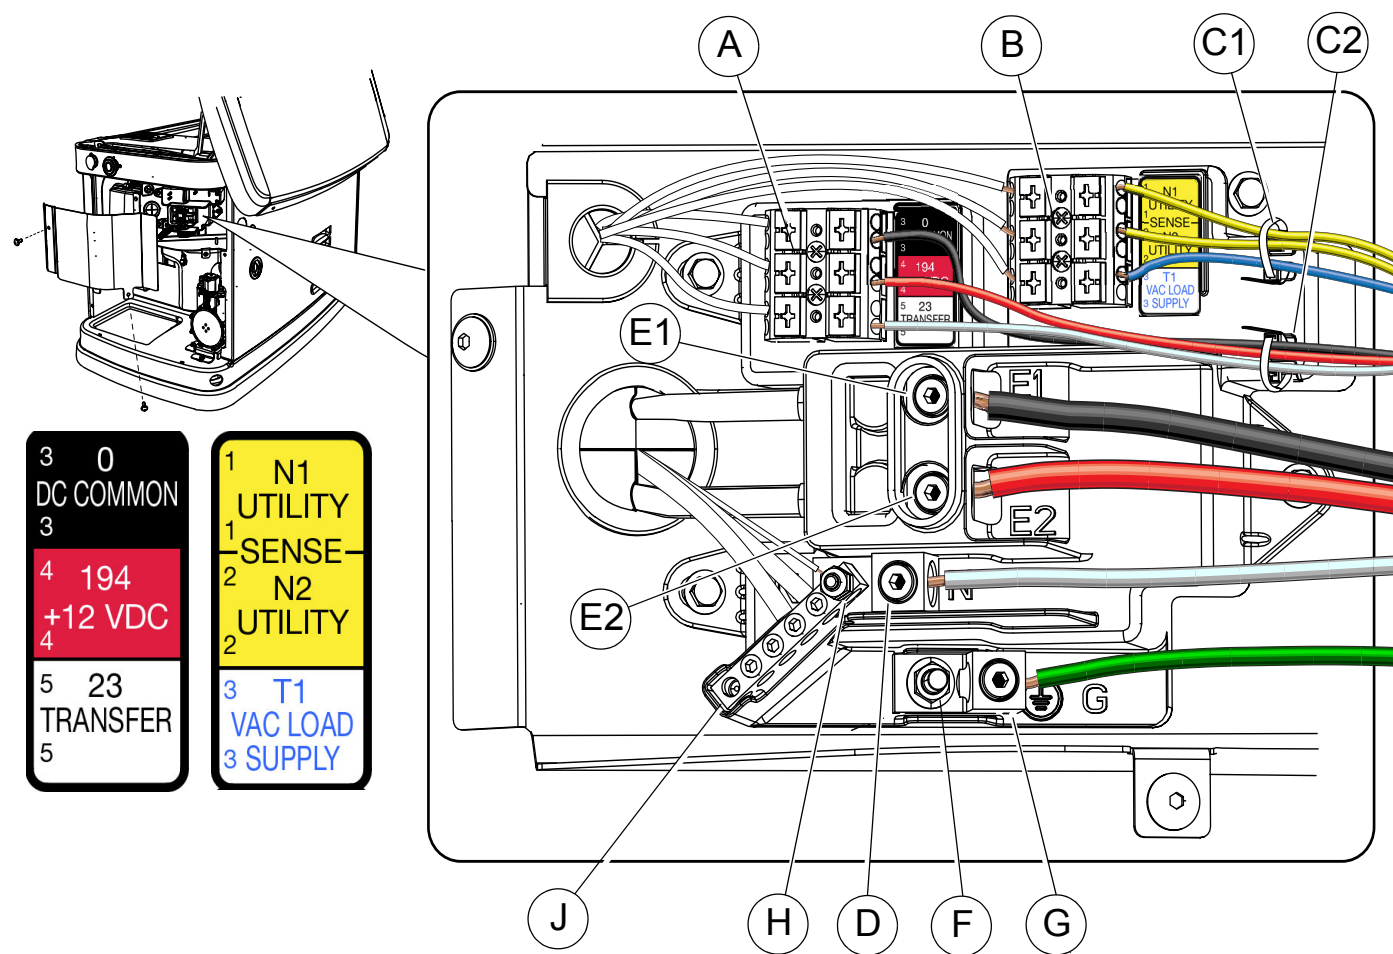

Figure 6-1. Electrical Wiring Connections
See Figure 6-1. The electrical wiring enclosure is located behind an access panel on the intake end of the unit. Remove the intake side panel as directed in Intake Side Panel Removal, and then remove the access panel. Connect wires according to the diagram and tables.
4. Strip the insulation from the ends of the wires. Do not remove excessive insulation. See Figure 6-1. Route the sense wires through the supplied wire tie (C1), and connect to the sense wire terminal block (B). Push down on the spring loaded connection point with a flat head screwdriver, insert wire, and release.
5. Using the same process, route the control wires through the second supplied wire tie (C2), and connect to the control wire terminal block (A).
2. See Figure 6-1. Loosen the lugs at neutral (D), ground (G), and power wire (mains) terminals (E1, E2).
NOTE: Neutral bonding – For installations that require the neutral to be bonded to the ground, this is done on the customer connections terminals inside the generator. See Figure 6-1. Connect a suitably sized wire from the neutral bar (J) to the ground stud (F). Torque the nut on the ground stud to 35 in-lbs (3.95 Nm). This is normally required when the generator is the source in a separately derived system. It is not required when the generator is a backup source in a utility supplied electrical system with a 2-pole transfer switch. The installation must be made in accordance with NEC Articles 250.30 and 250.35(A) if the generator will be installed as a separately derived system.